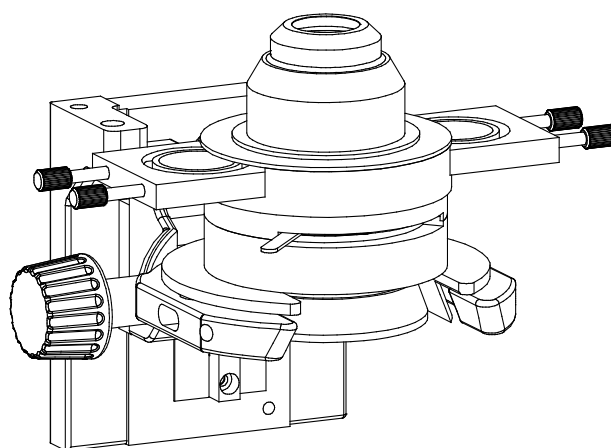

Fig.6
- (4) If you choose the phase contrast condenser to observation, you need to install the phase contrast condenser on the bracket of the contrast, loosen the screw of height limit for let out the position fid, and turn the Condenser Adjustment to the position of under the simple or little more high of it ,do it all of above and lock the screw, as be shown in the Fig.6. About the adjustment and observation of the phase contract condenser operation, please read the << The Manual of the Phase Contract Condenser Operation>>.